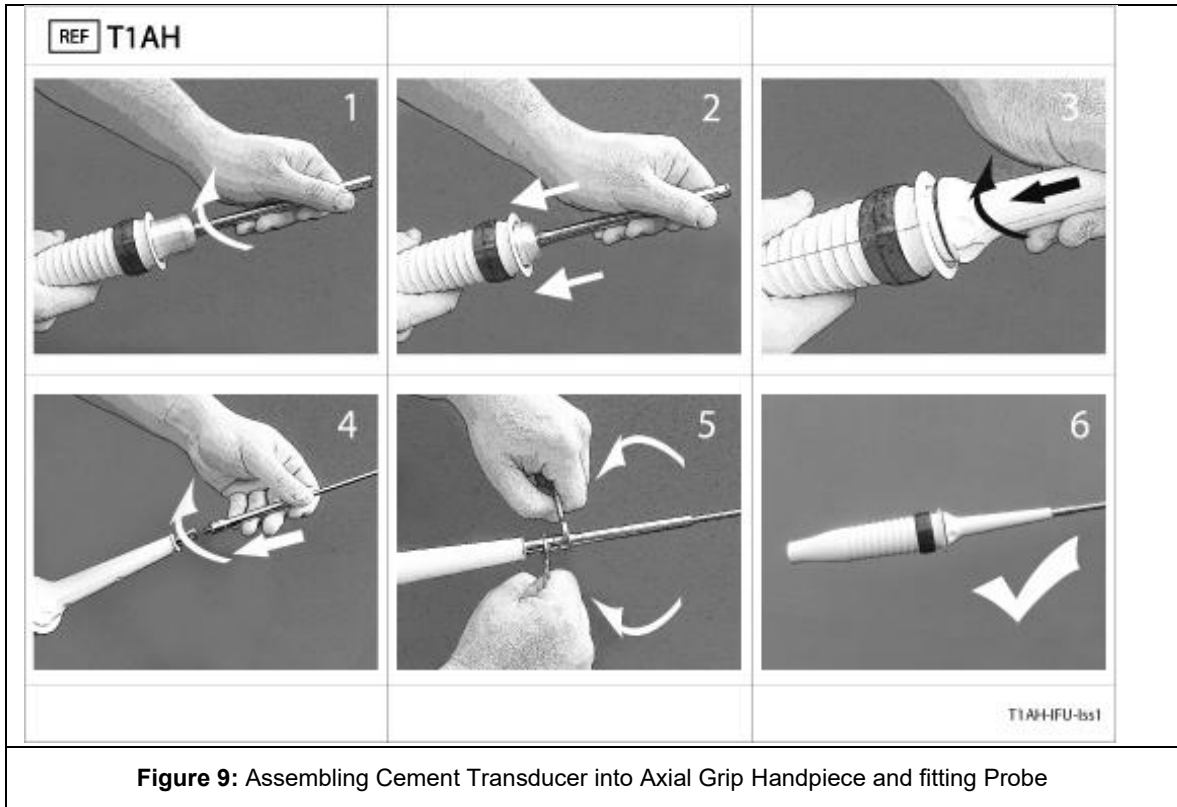

Figure 9: Assembling Cement Transducer into Axial Grip Handpiece and fitting Probe
- Fit the transducer into the handpiece. Rotate the transducer and drop into place – ensure that it is securely connected. See (1) & (2) in Figure 9 below.
- Slide the handpiece sleeve over the Transducer horn. Locate the lugs at the base of the sleeve into the handpiece grip and twist / click into place. See (3) below.
- Attach the probe to the transducer using both spanners. See pictures (4) and (5) below.